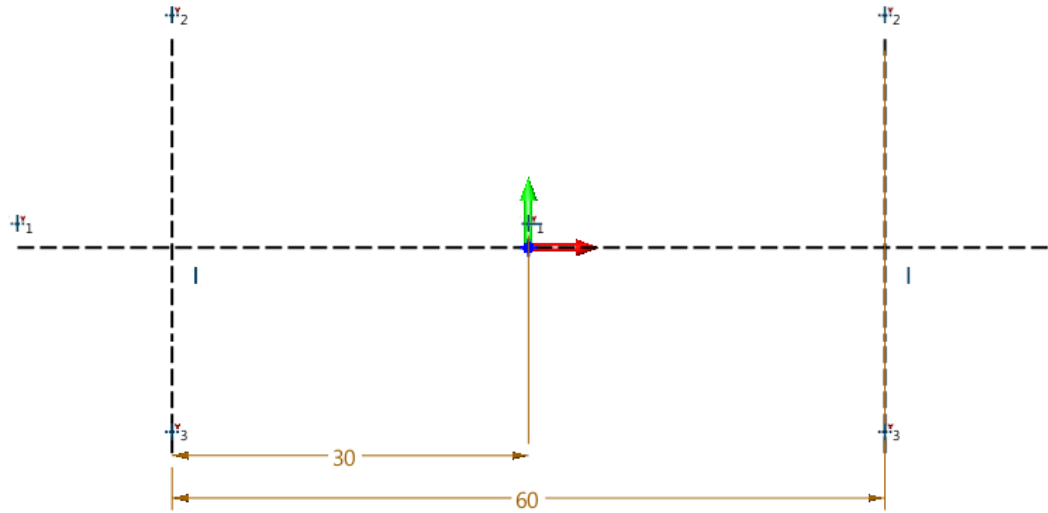

Figure 108 Construction Lines
**STEP 01** Draw the construction lines, as shown in the Figure 108.